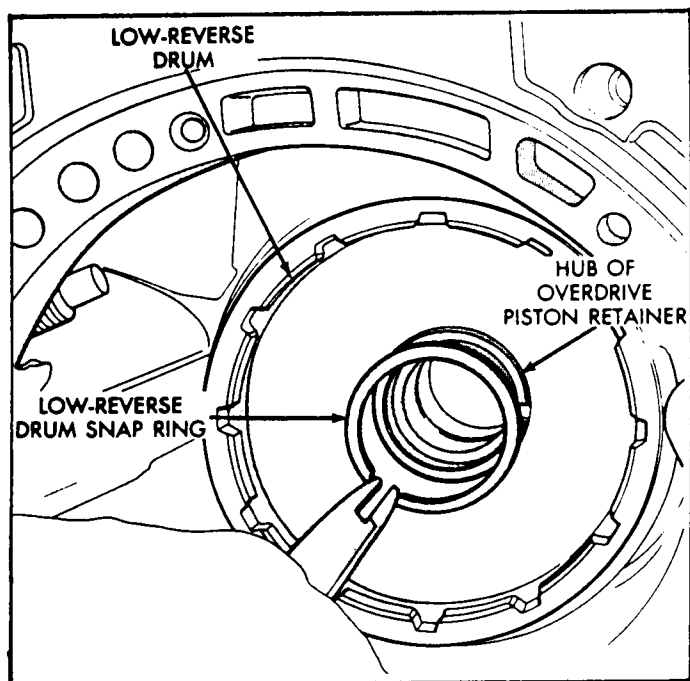

Figure 24
37. Remove the low/reverse drum snap ring using snap ring pliers, as shown in Figure 24.